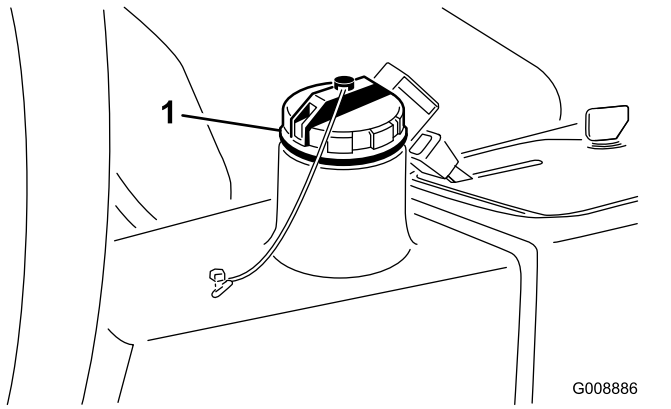

**Figure 77**
2. Disconnect the large hydraulic hose (Figure 77) from the reservoir and let the hydraulic fluid flow into a drain pan.